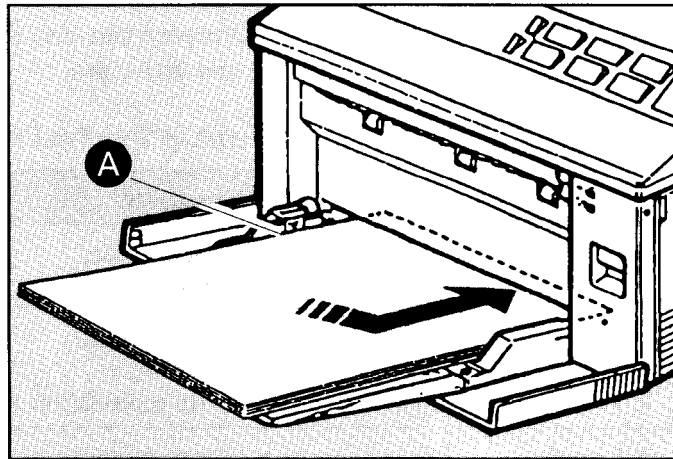

Figure 3-3. Placing Paper Forward in the Tray
2. Insert your paper or other print media with the **print surface face-down**. Place it in as far as it will go, making sure that it is no higher than the tip of the arrow on the paper width adjuster (figure 3-3, **A**).